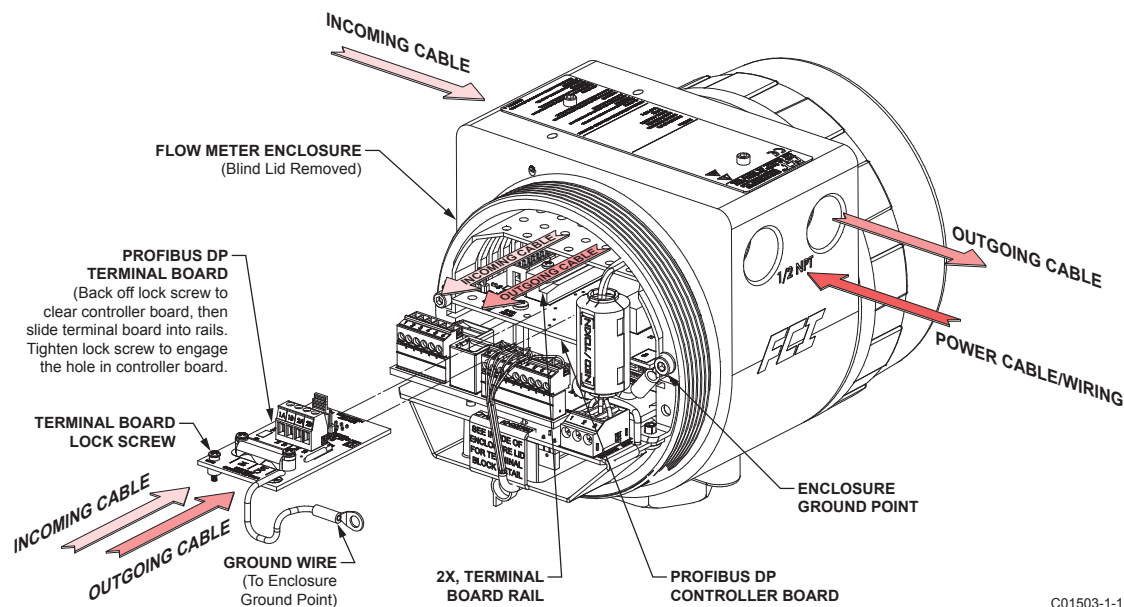
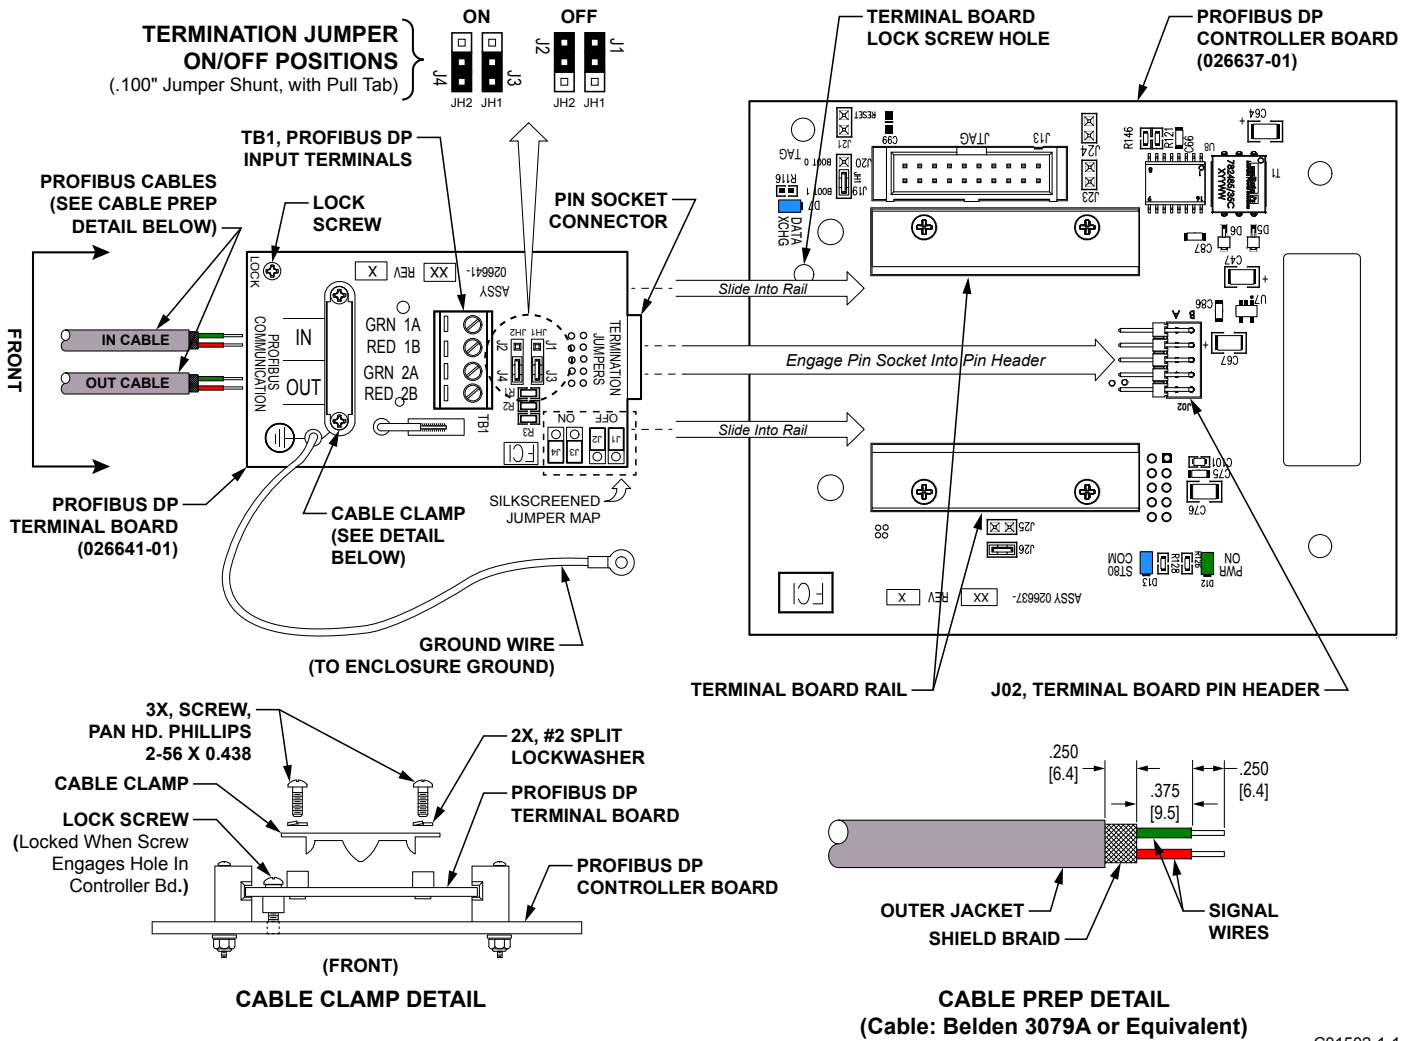

Figure 2 – ST80/ST80L PROFIBUS DP SUGGESTED CABLE ROUTING
Figure 3 – ST80/ST80L PROFIBUS DP Wiring and Jumper Configuration
The ST80/ST80L PROFIBUS DP connections are made on a small, plug-in terminal board that mounts on top of the PROFIBUS DP controller board as shown in Figure 2 and Figure 3 below. The PROFIBUS DP controller board (installed at the factory) mounts on top of the main board. The terminal board's 4-position TB1 connector accepts 26–16 AWG (0.14 mm²–1.5 mm²) PROFIBUS wiring.
2. Route the PROFIBUS DP cable, incoming and outgoing, through enclosure ports as shown in Figure 2 below. FCI recommends Belden PROFIBUS DP cable part number 3079A or equivalent. When wiring the enclosure, follow the assembly instructions for the type cable fittings used such as conduit hubs, cable glands, etc. Allow an adequate length of wire inside the enclosure for a service loop.
3. Using a PROFIBUS cable stripping tool, strip the cable ends as shown in “Cable Stripping Dimensions” in Figure 3. Those experienced with working with cables can opt to use a knife or wire cutter to remove the insulation.